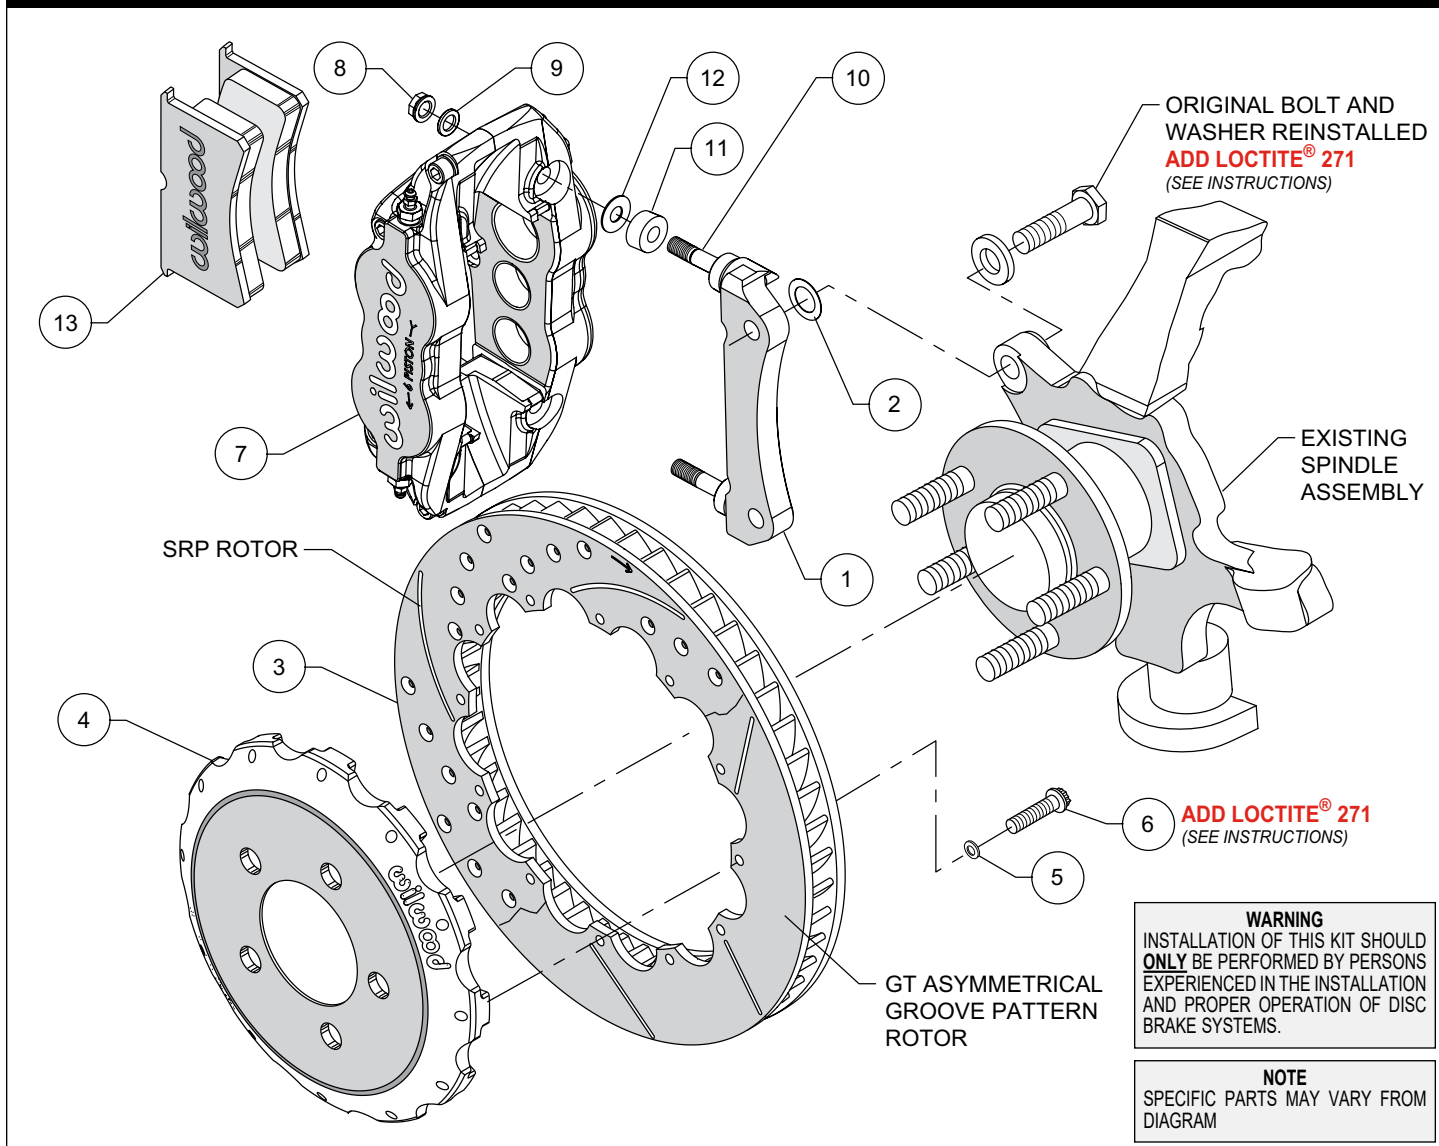
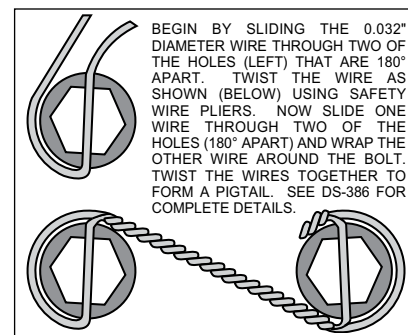

Figure 1. Typical Installation Configuration
Figure 3. Safety Wire Diagram
- Assemble the rotor (3) to the hat (4) with the bolts (6) and washers (5) as indicated in the configuration pictured in Figure 1. Apply red *Loctite*® 271 to the bolt threads and torque to 155 **in-lb** using a criss-cross pattern. For an added measure of security, the bolts may be safety wired using standard 0.032 inch diameter stainless steel safety wire as shown in Figure 3. Please refer to Wilwood's data sheet DS-386 (available at [www.wilwood.com/Pdf/DataSheets/ds386.pdf](http://www.wilwood.com/Pdf/DataSheets/ds386.pdf)) for complete safety wire installation instructions.
- **NOTE:** This kit contains distinct right and left hand calipers that must be mounted in a specific direction, as described below. Initially place one .035" thick shim (12) and spacer (11) on each stud (10) as shown in Figure 1. Mount the caliper (7) onto the bracket (1) using lock nuts (8) and washers (9), Figure 1. Ensure that the caliper is mounted so that the largest pistons are at the rotor exit end of the caliper, in relation to the direction of rotor rotation. Temporarily tighten the lock nuts and view the rotor through the top opening of the caliper. The rotor should be centered in the caliper. If not, adjust by adding or subtracting shims (2) between the bracket and the upright. Always use the same amount of shims on each of the two mounting bolts. Once the caliper alignment is correct, remove the bracket mounting bolts one at a time, apply red *Loctite*® 271 to the threads, and torque to manufacturer's specifications.
- Remove the caliper center bridge pad retainer bolt, nut, and tube from the caliper. Slide the brake pads (13) into place. They should install easily without interference. Check that the outside radius of the brake pad is aligned with the outside diameter radius of the rotor face. Add or subtract .035 shims (12) between the caliper and mount bracket to gain the proper alignment. Reinstall the center bridge pad retainer tube, bolt, and lock nut. The locknut should be snug without play in the bolt or tube. Be cautious not to over tighten.
- Once all clearances have been checked, remove the wheel, caliper, hat, and rotor from the spindle and hub. Secure the caliper mounting bracket (1) to the spindle using red *Loctite*® 271. Torque the bolts to 65 ft-lbs. Reinstall the hat and rotor assembly and again use several lug nuts to hold it in place. Reinstall the caliper and torque the caliper nuts (8) to 28 ft-lbs.